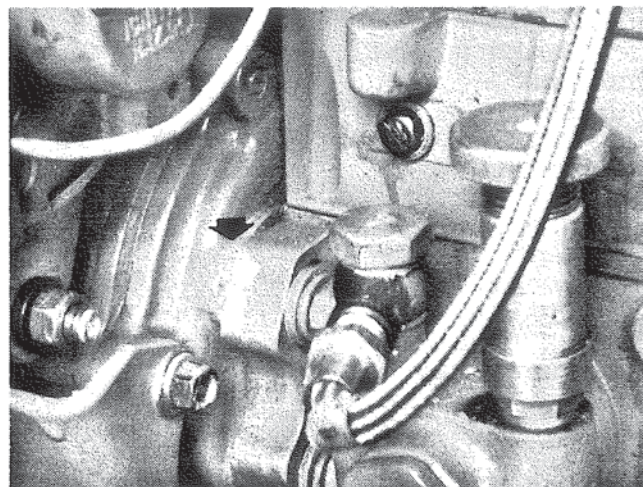

Figure 48. Installing Flange to Injection Pump.
3. Secure flange plate to injection pump so that mark on flange plate is on center mark on injection pump flange. Figure 48.